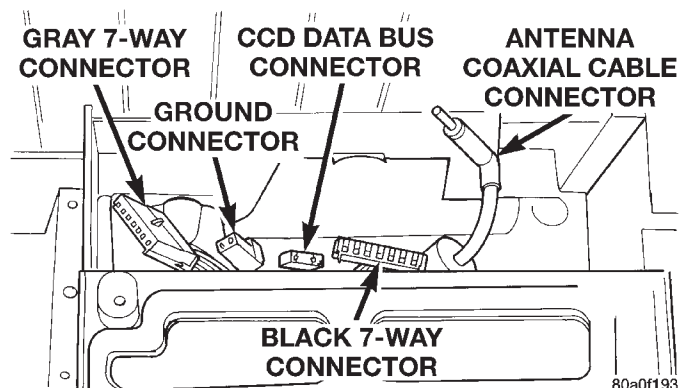

Fig. 4 Radio Connectors
- (6) Pull the radio out from the instrument panel far enough to unplug the wiring connectors and the antenna coaxial cable (Fig. 4).